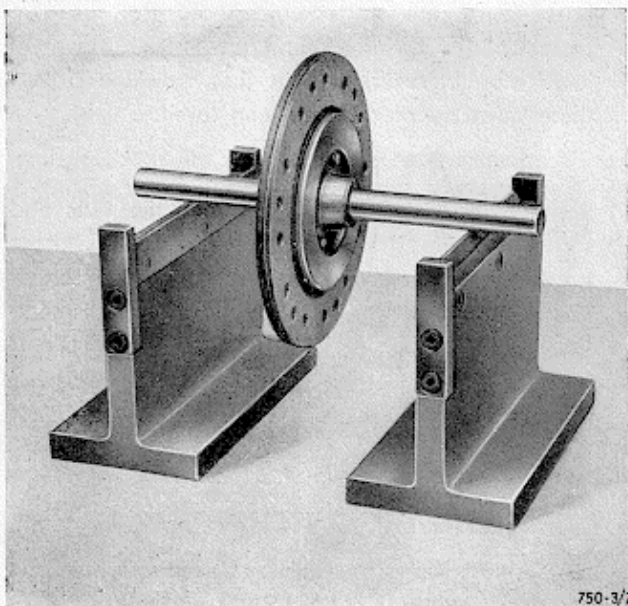

Fig. 7 - Checking the static balance of the driven plate
- 7) When a new lining has been fitted, the driven-plate must be statically balanced by mounting it on a suitable shaft fitted in turn onto the special fixture 6123.13.001 (Fig. 7). After being gently rotated the driven plate should not always come to rest with one particular point at the bottom; if necessary, remove enough metal from the edge to achieve a state of balance.
Fig. 7 bis
- 6) Check the static balance of the clutch, without driven plate, by mounting it on the plate No. 6123.10.052 fitted in turn onto the special squares 6123.13.001 (fig. 7 bis). After being rotated the clutch should not always come to rest with one particular point at the bottom; if necessary remove enough metal by drilling the exterior surface of the pressure plate to achieve a state of balance.